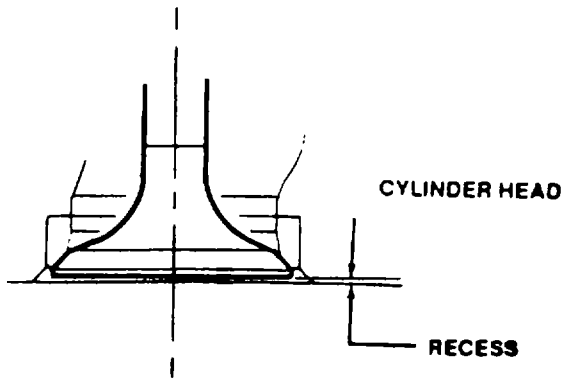

Figure 5-7. Valve Recess.
- (1) Clean cylinder head and valves with a clean cloth dampened with diesel fuel. Use wire brush where necessary and dry with compressed air.
- (2) Inspect cylinder head for cracks, corrosion, or excessive heat damage.
- (3) Inspect valve heads and valve stems for cracks, pitting, scratches, warpage, or any other damage.
- (4) Refer to Figure 5-7. Check that each valve stem diameter is more than 0.2126 inch (5.40 mm).